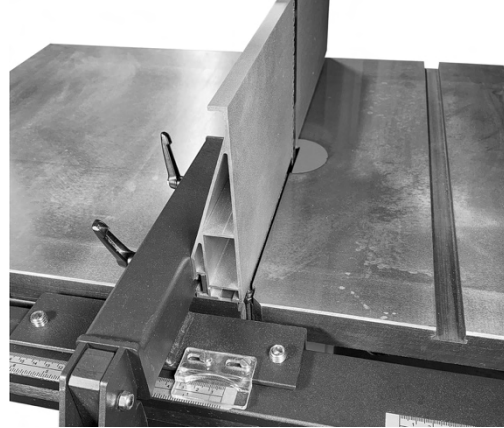

Figure 5-26
2. Move fence against blade (do not deflect blade by pushing into it). See Figure 5-26.